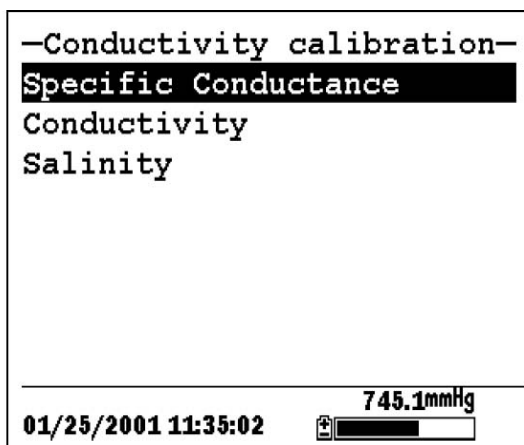

Figure 6.3 Conductivity Calibration Selection Screen
- 14.** Press **Enter**. This returns you to the Conductivity Calibrate Selection Screen, See Figure 6.3 Conductivity Calibration Selection Screen..